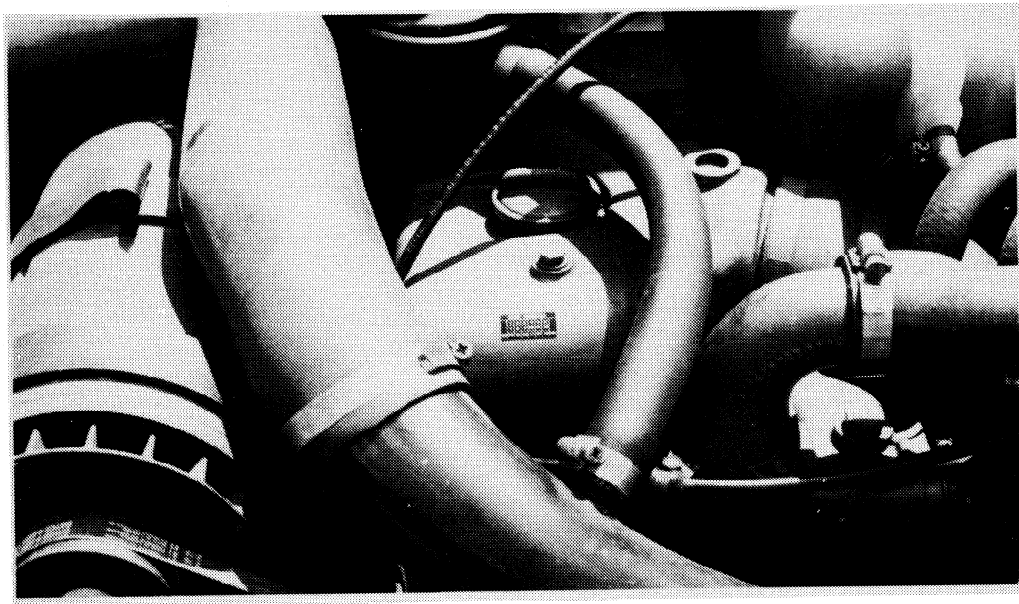

FIG 5 - ENGINE MODIFICATION PLATE LOCATION
9. Fit the modification record plate (item 3, Table 1) using item 4, Table 1 to the engine as shown in Fig 5 and deface the Numeral 1.